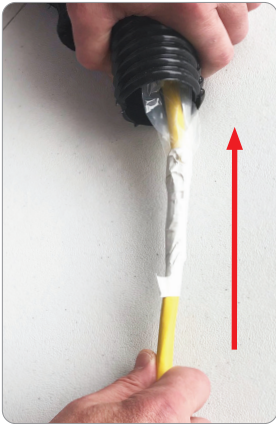

Figure 5
5. Carefully remove the Braided Sleeve and Corrugated Tube. **(Figure 5)**